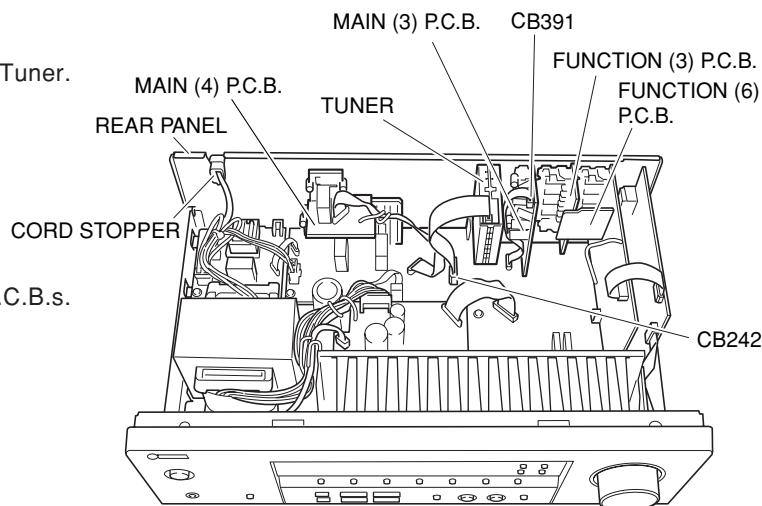

Fig. 2
- Remove CB242 and CB391. (Fig. 2)
- Remove MAIN (3), MAIN (4) P.C.B.s and the Tuner. (Fig. 2)
- Remove Cord Stopper. (Fig. 2)
- Remove Rear Panel. (Fig. 2)
- Remove FUNCTION (3) and FUNCTION (6) P.C.B.s. (Fig. 2)